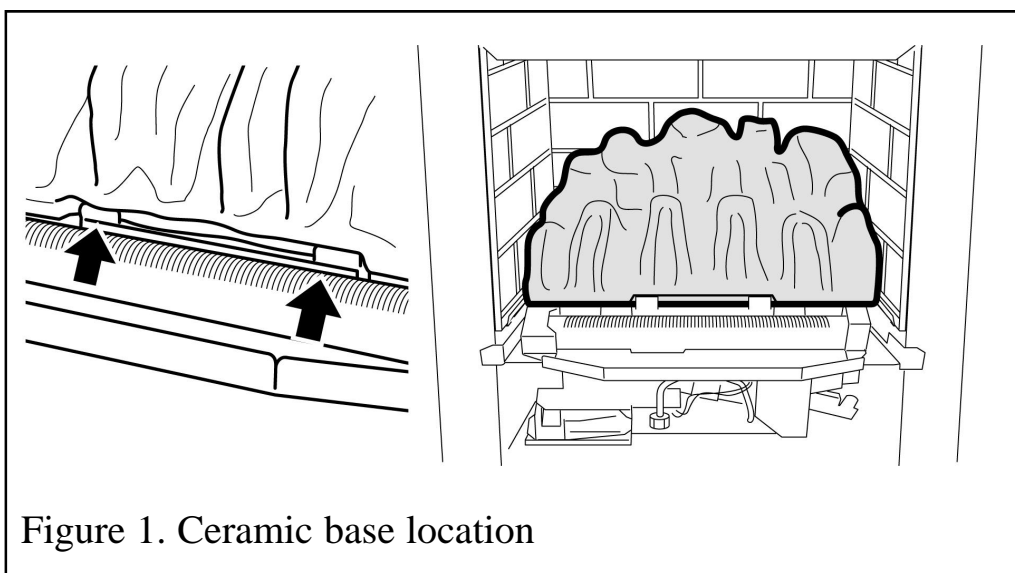

Figure 1. Ceramic base location
1. Place the ceramic base coal in the burner compartment. The bottom rear face of the coal should rest on the angled ledges at the back of the burner compartment. The bottom front recess edges on the coal base should locate against the tags at the front of the ceramic support (See figure 1).